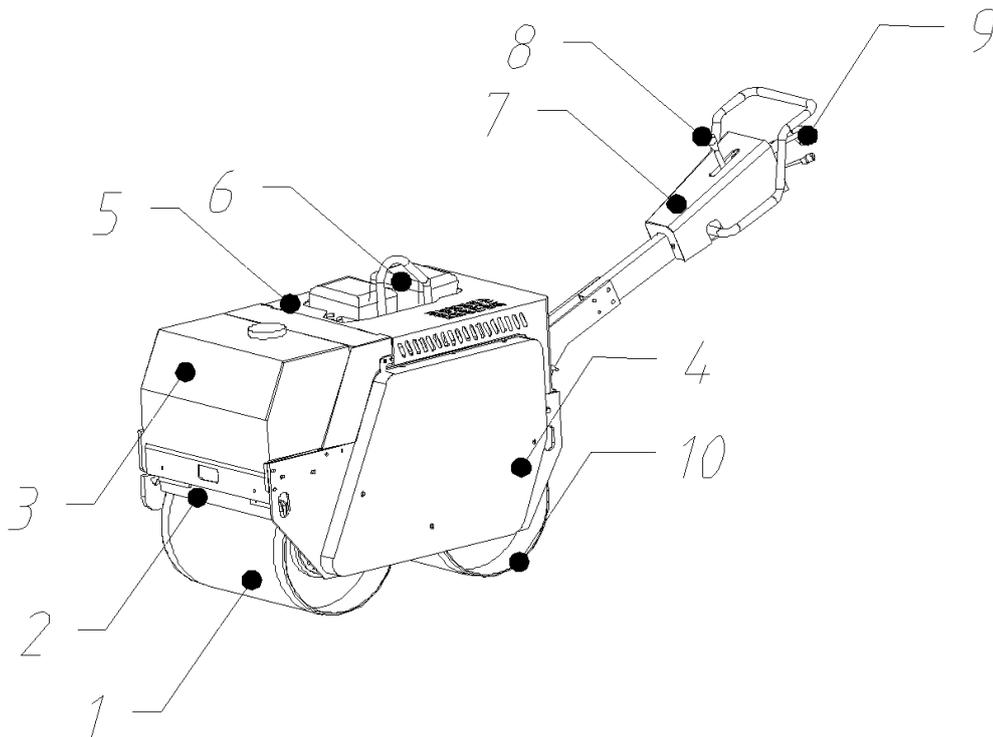

figure1
**2.1. Structural characteristics** (specific structure shown in Figure 1)